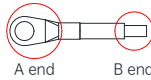

Fig. 5 Grounding terminal connection
- (5) Grounding: MV810-PNET03 must be grounded during wiring as shown in Fig. 5. You need to prepare and crimp the cable by yourself.